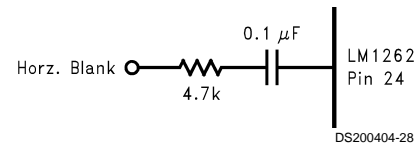

FIGURE 6. Standard Logic H Blank
**H Blank:** Some customers may still prefer to use a standard logic signal for the horizontal blanking. Pin 24 can be adapted to accept a logic input. It is necessary for the current flow into pin 24 to reverse for proper operation. Therefore the logic signal must be AC coupled into pin 24. *Figure 6* shows the recommended circuit for a logic signal input. The blank signal must be a positive pulse.